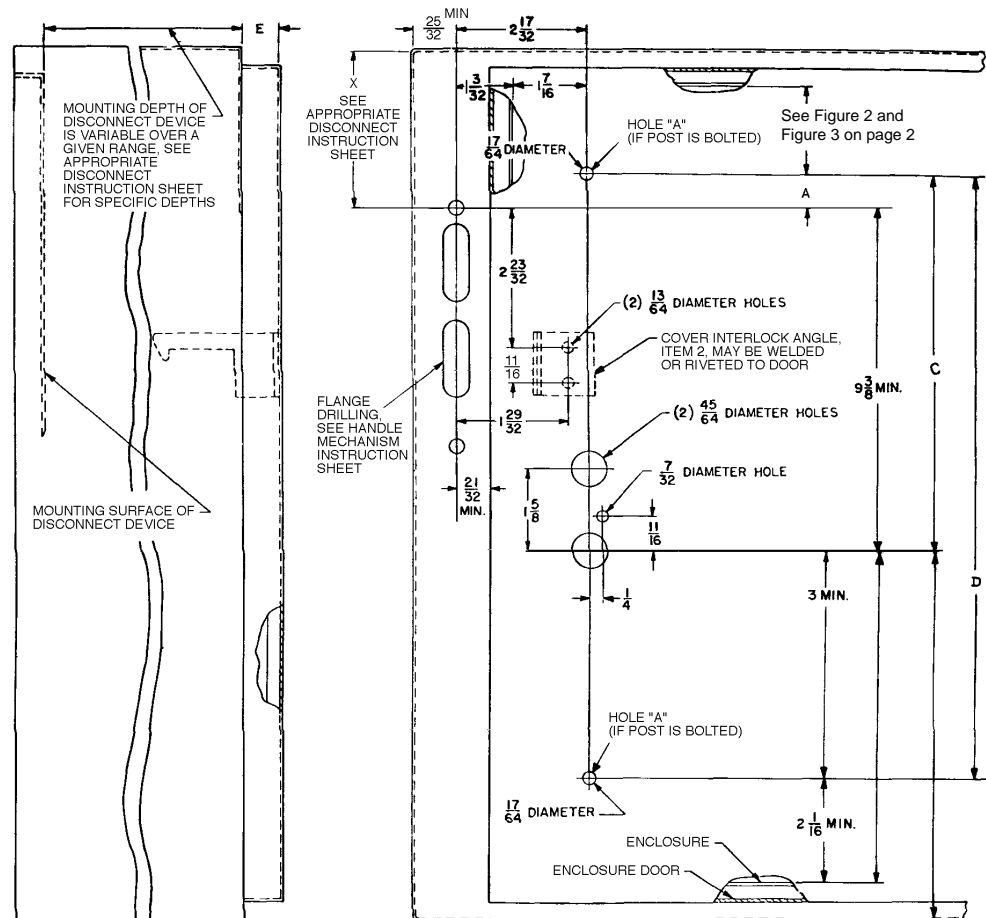
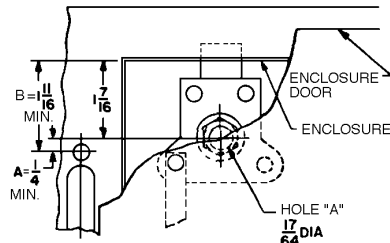
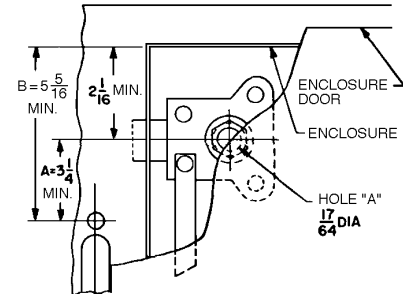
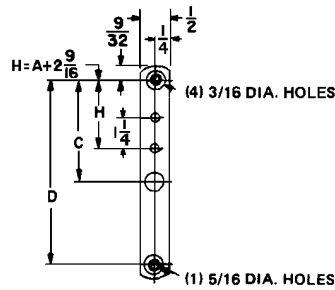

Figure 1 Enclosure Construction
Figure 2 Positioning Roller Latch, B = 1-11/16" to 5-5/16"
Figure 3 Positioning Roller Latch, B ≥ 5-5/16"
Figure 6 Cover Latch Bar
Figure 1 shows the dimensional requirements for construction of the enclosure.
1. If door closing mechanism is used with a Class 9422 disconnect switch or circuit breaker operating mechanism, see appropriate instruction sheet for flange drilling information and additional construction dimensions. Measure dimension B and drill hole A per Figure 2 or Figure 3. See Table 1 for figure selection.
1-11/16" to 5-5/16"	Figure 2
5-5/16" or more	Figure 2 or Figure 3
If door closing mechanism is used independently, roller latch assembly may be assembled either per Figure 2 or Figure 3.
2. Drill all remaining holes shown in Figure 1 on page 1 observing minimum dimensions. Assemble cover interlock blade, item 1, and cover interlock angle, item 2, with two screw assemblies, item 22, for appropriate door depth as shown in Figure 4.
Before installing rivet (item 23), refer to Figure 2 and Figure 3 to determine in which hole of the latch arm to place the rivet.
4. Fabricate cover latch bar from 1/4" x 1/2" steel bar per Figure 6. Determine dimensions C and D by measuring appropriate holes in enclosure door as shown in Figure 1. Determine dimension A by measuring between flange and door holes as shown above in Figure 2 or Figure 3.